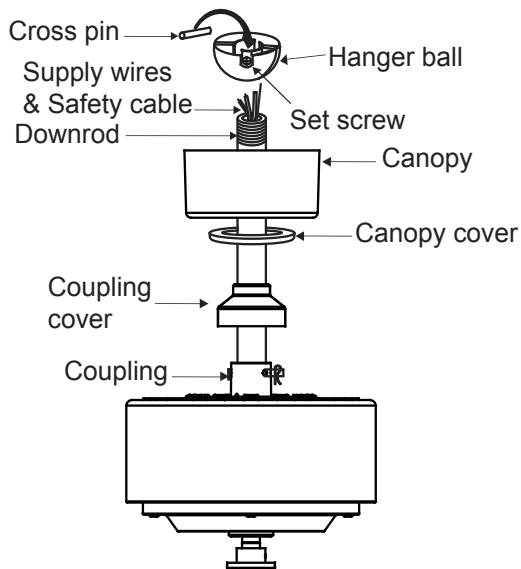

Fig. 10
Step 9. Slip the coupling cover, canopy cover and canopy onto the downrod. (Fig. 10)
Thread the hanger ball onto the downrod, insert the cross pin through the downrod and tighten. Now tighten the set screw. (Fig. 10)